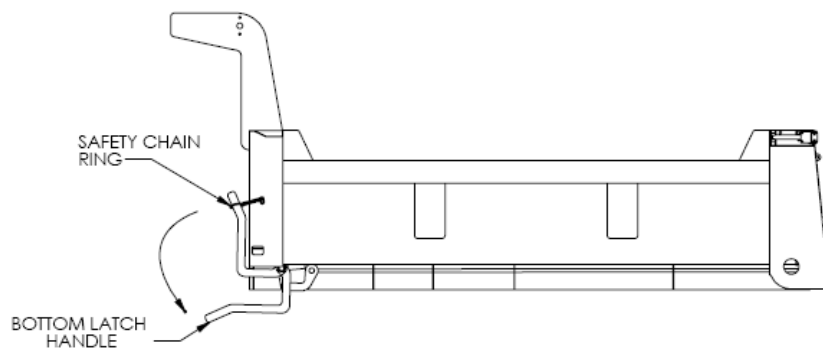

FIGURE 2
The tailgate is opened bottom up by using the bottom latch handle located at the front driver side of the dump body. (Figure 2)
2. Rotate the bottom latch handle down to release the tailgate bottom as shown in Figure 2.